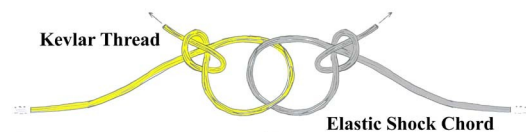

Figure 12
- **Step 18** As shown in Fig. 12, tie a slip knot loop in the free end of the Kevlar thread. Insert one end of the shock chord elastic through this loop, and tie a matching slip knot loop in it, trapping the Kevlar thread. Pull these two knots tightly against each other, and secure the knots with a layer of thinned glue. Allow to dry, then push all of the recovery line back through the engine mount, through the body tube, and out the top end. Tie the free end of the elastic chord to the barrel end of the remaining snap link. Push all of this back into the body tube in preparation for the final steps.